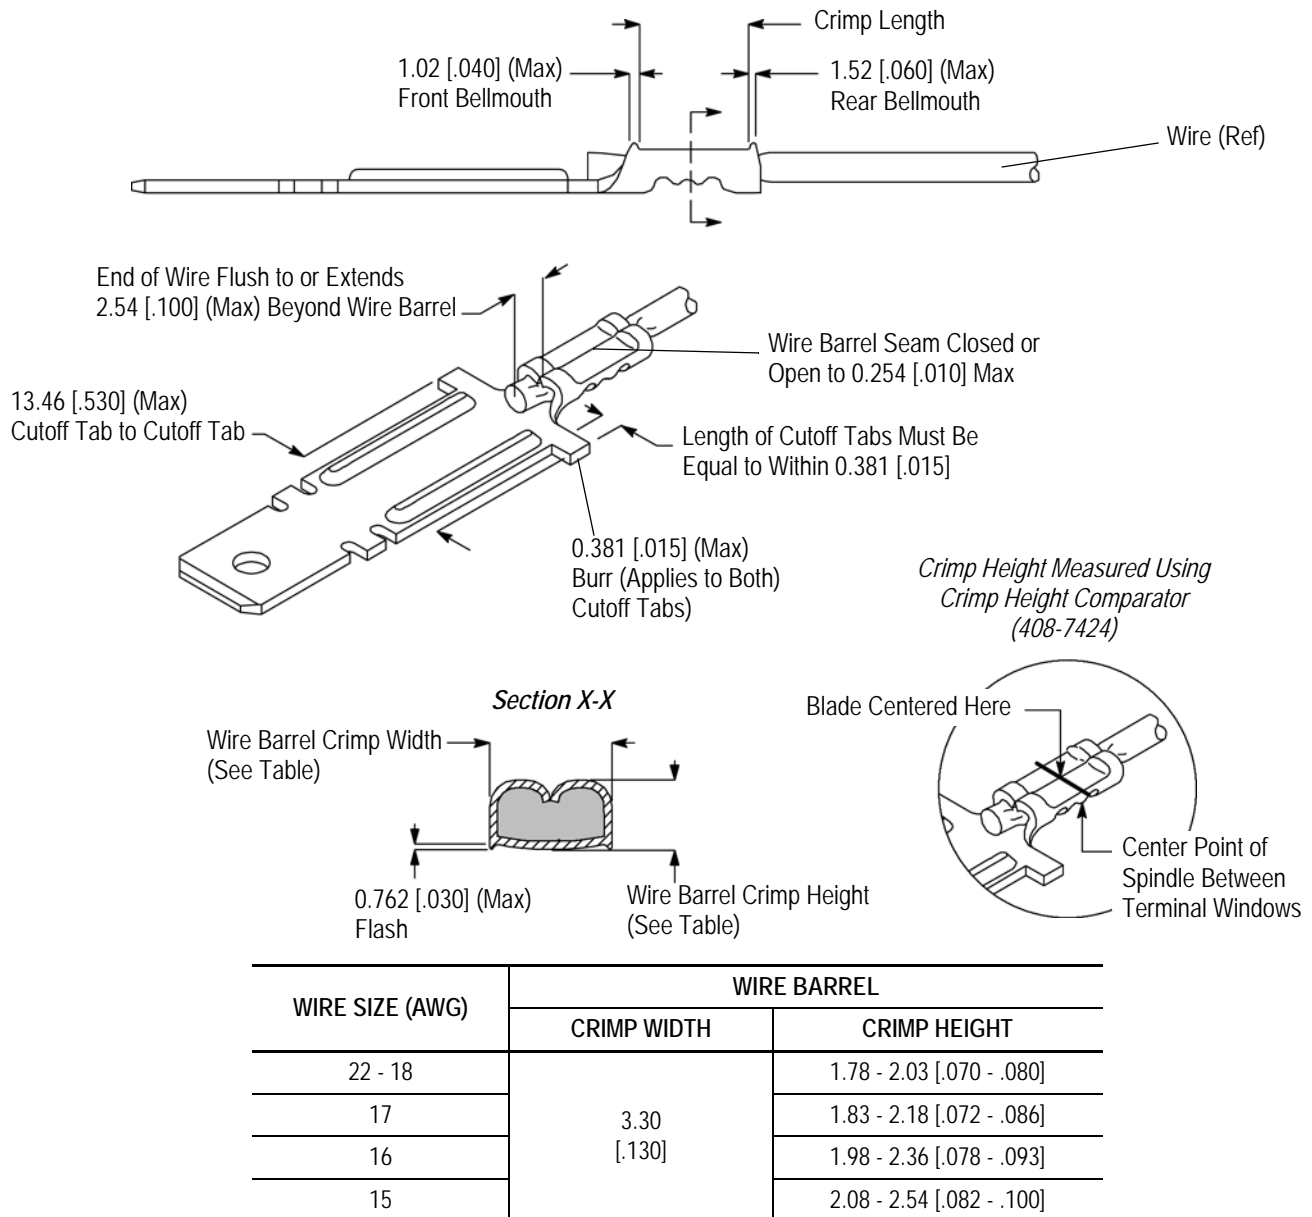

Figure 2
Terminals must be crimped with the appropriate tooling according to the instructions supplied with the tooling. Periodic inspections must be made to ensure crimp formation is consistent with Figure 2.
1. The cutoff tabs must not exceed the dimensions (length from tab to tab and length of each tab) shown in Figure 2.
2. The burr resulting from the cutoff tab shearing must not exceed the dimension shown in Figure 2.
The crimp applied to the wire portion of the terminal is the most compressed area and is most critical in ensuring optimum electrical and mechanical performance of the terminal. The wire barrel must be formed to the "F" crimp where the tips of the wire barrel turn inward and capture the wire. The crimp must cover both windows. The crimp height and crimp width must be within the dimensions provided in Figure 2.
Effective crimp length is defined as that portion of the wire barrel, excluding bellmouths, fully formed by the crimping tooling. For optimum crimp effectiveness, the crimp must be within the area shown and must meet the crimp requirements provided in Figure 2.
Front bellmouth and rear bellmouth shall be evident and conform to the dimensions provided in Figure 2.
Flash is the formation that may appear on both sides of the wire barrel as the result of the crimping process. The flash must not exceed the limit provided in Figure 2.
The end of the wire must be flush to or extend beyond the wire barrel to the limit provided in Figure 2.
The seam between the two sides of the wire barrel must be completely closed or have an opening between the seam no greater than the dimension provided in Figure 2.